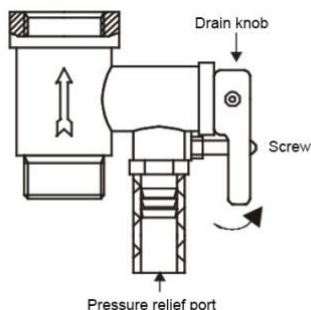

Рисунок 6
4. Screw the safety relief valve on the inlet nozzle, which is marked in blue and has a water flow direction arrow in such a way that the water flow coincides with the direction of the arrow on the valve body. Put the water drainage tube* (water may appear during heating) on the pressure relief port of the safety relief valve to allow water drainage into the sewer (see Fig. 6) (the tube must be directed downwards and must not be bent).
6. To drain the internal tank, use the safety relief valve: unscrew the screw of drain knob on the safety relief valve and move the drain knob to the up position — the hot water outlet tap must be open and the cold water inlet tap must be closed (see Fig. 6). Water will start flowing from the pressure relief port of the safety relief valve.